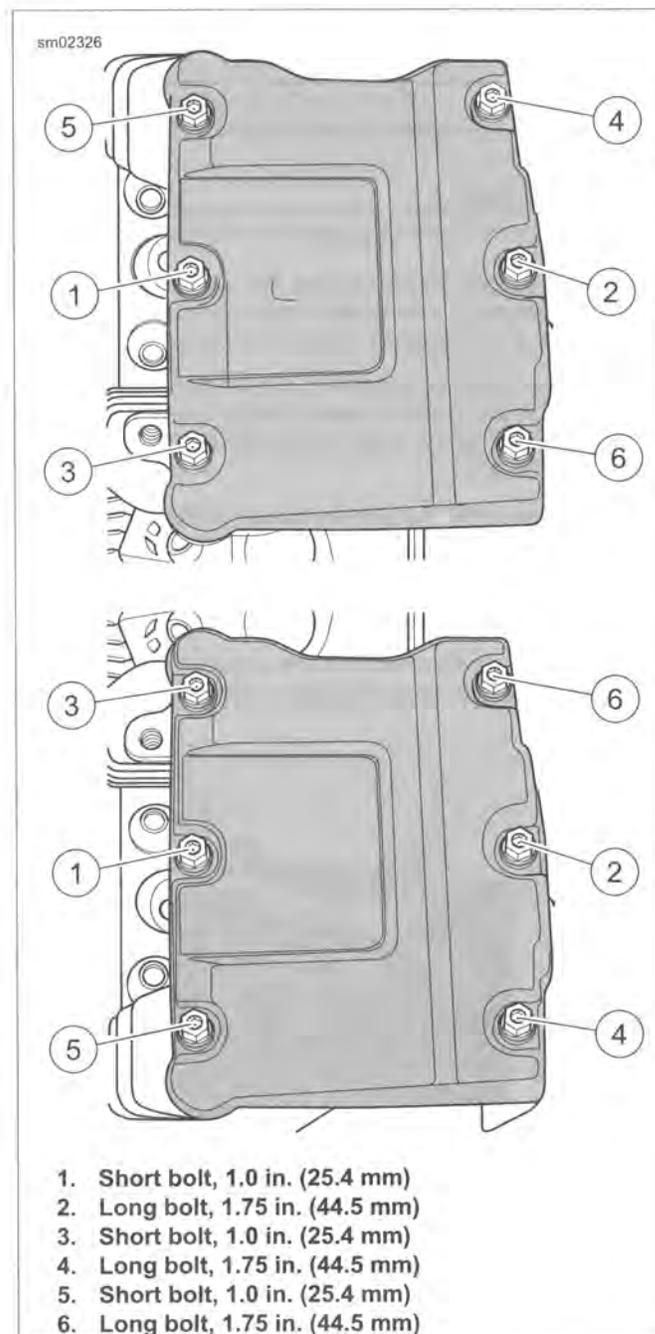

Figure 3-84. Rocker Cover Bolts Torque Sequence
- See Figure 3-84. Install rocker cover and a **new** rocker cover gasket. Tighten screws following the sequence shown to 15-18 ft-lbs (20.3-24.4 Nm).